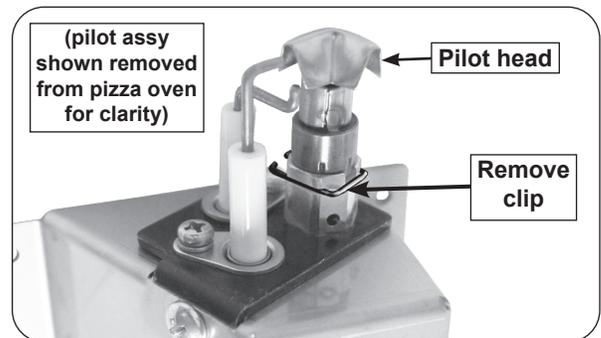

Fig. 2-4 Remove pilot clip
1. Locate the pilot assembly. Remove and discard the pilot clip (see Fig. 2-4).